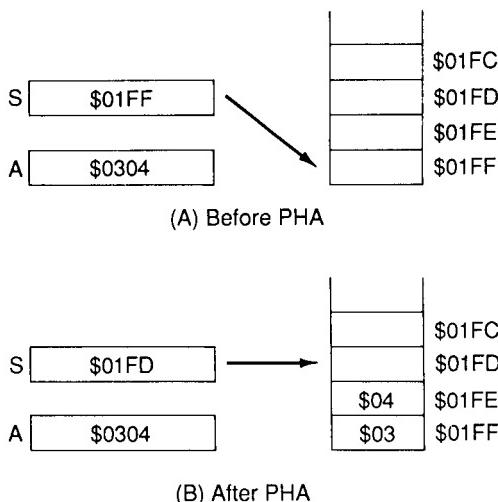

Figure 4-5
Figure 4-5 shows how a PHA instruction in 16-bit native mode affects the stack. Here, the stack pointer (S) is pointing to the top of the stack, location \$01FF, and the accumulator contains \$0304. After PHA executes, the stack pointer has been decremented to \$01FD and the contents of the accumulator have been stored on the stack.